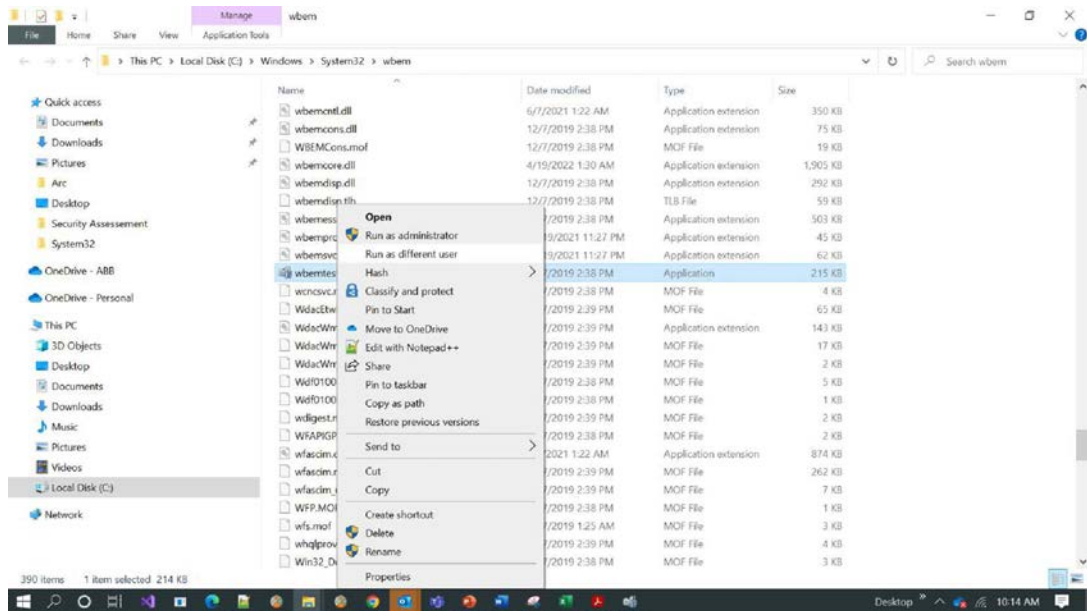

Figure F.1: System32 Folder
1. In MCS-DC launch node, Go to the system32 folder and select wbemtest.exe application. Hold Shift and Right-click, which brings up the "Run as different user" as shown in **Figure F.1**.